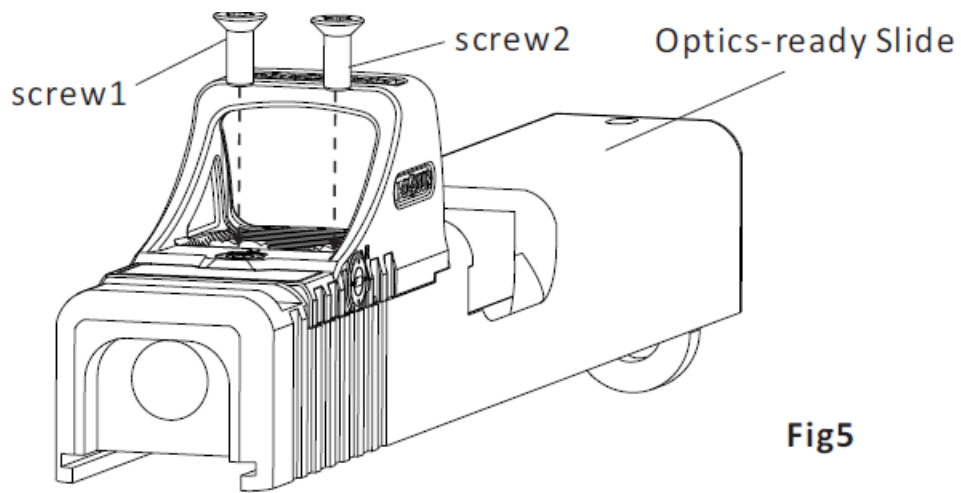

Fig5
1. Place the SCS on the optics-ready slide.(Fig5)